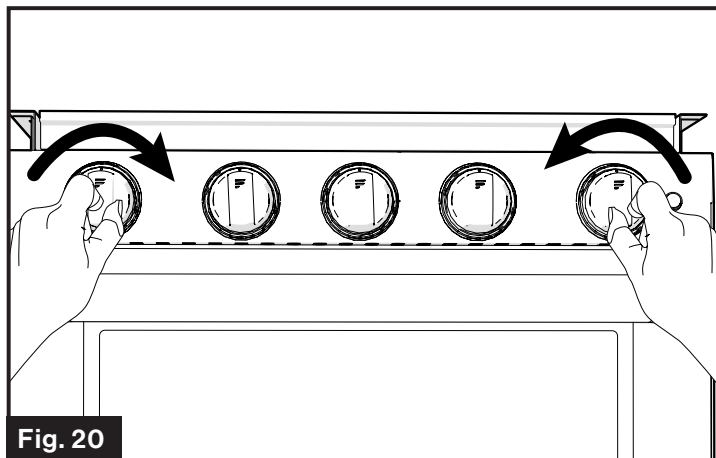

Fig. 20
3. Keep the oven control knob pushed in and rotate the ignition knob clockwise repeatedly until the oven burner pilot flame is lit. (Fig. 20)